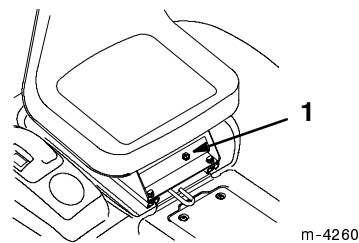

Figure 17
2. Insert the KeyChoice key into the KeyChoice switch (Fig. 17).